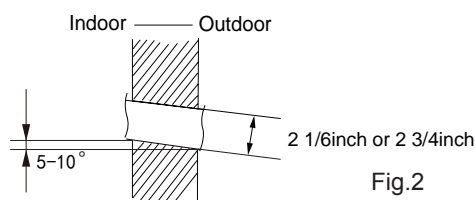

Fig.2
(2) Open a piping hole with the diameter of 2 1/6 or 2 3/4 inch on the selected outlet pipe position. In order to drain smoothly, slant the piping hole on the wall slightly downward to the outdoor side with the gradient of 5-10°. (As show in Fig.2)